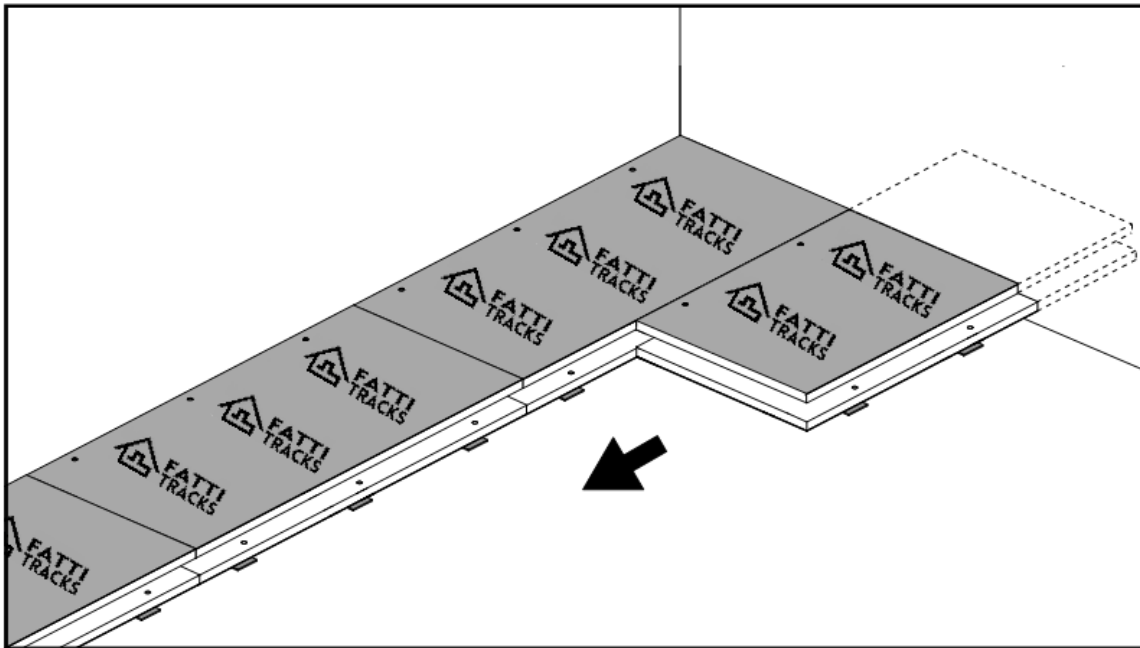

Fig. 2
- Using the interior panels, continue working in a right-to-left progression with subsequent rows. Interlock the leg posts and holes, while adhering the panels on the overlapping horizontal joints (see fig. 2). To maintain the necessary continuous brick pattern, trim the ends of the first panel for every other row by 16" or 32". Reconfigure the leg locations on the trimmed panels to maintain structural stability.